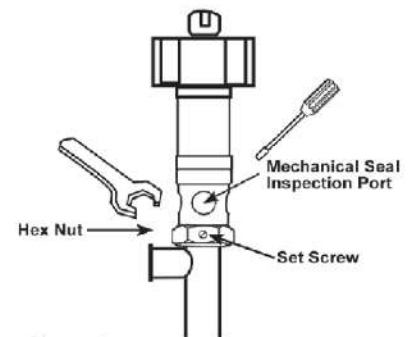

Figure 5
5. Loosen set screw on side of Hex Nut (see Figure 5).
6. Place a screwdriver (or similarly shaped object) in the mechanical seal inspection port (see Figure 5).
7. Use a large wrench to loosen the Hex Nut while simultaneously holding the screwdriver in the seal inspection port (see Figure 5).